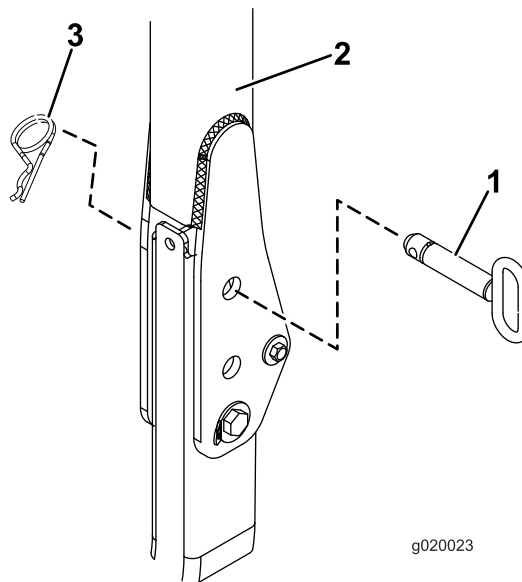

Figure 26
- For Reelmaster 3555 and 3575 traction units,** skip to step 10. For all other models, with the roll bar in the raised position, remove the hairpin cotters and the 2 pins (Figure 26).